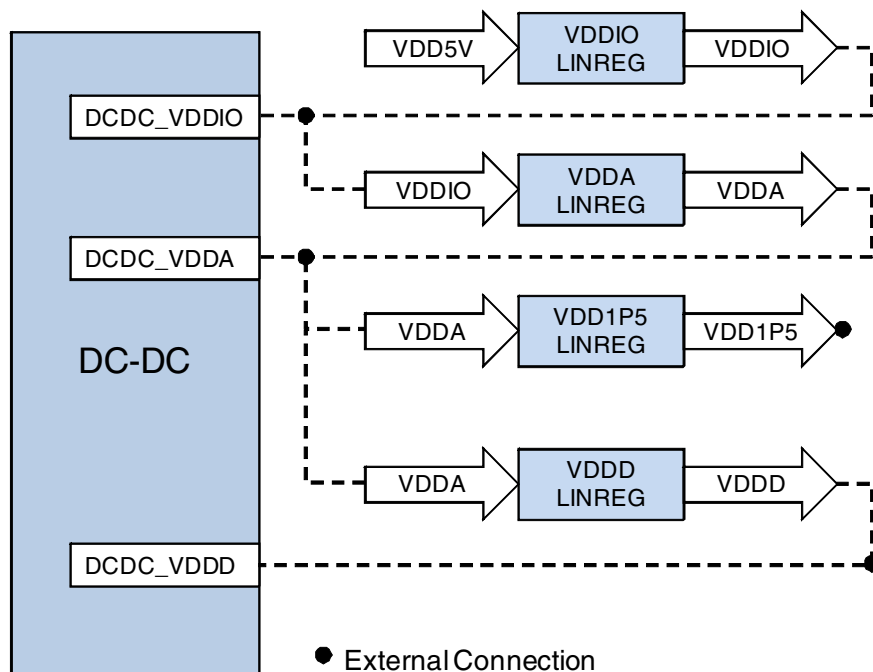

Figure 3. Linear-regulator daisy-chain architecture
- Multiple LinRegs—Contains a group of LinRegs where each takes a single input and regulates the voltage to the target output level. The LinRegs are reliable and stable, but not as efficient as the DC-DC converter. The LinRegs for the power rails are in a daisy-chained architecture where the output voltage is available from higher to lower values. In cases where the input is an internal power rail, the LinReg can alternatively be powered from the DC-DC output of the rail. See Figure 3.
The LinReg power supply follows a linear-regulator daisy-chain architecture (see Figure 3). The VDDIO LinReg receives power from the VDD5V source, VDDA receives power from VDDIO, and VDDD receives power from VDDA, in turn. The VDD1P5 rail also receives power from VDDA. Because the DC-DC converter powers the VDDIO, VDDA, and VDDD rails, the DC-DC converter can also be the power source for the LinRegs.
As shown in Figure 3, the VDDIO LinReg receives power from the VDD5V source and then provides power to other LinRegs. Therefore, limiting the current through VDDIO LinReg limits the current through all the LinRegs.